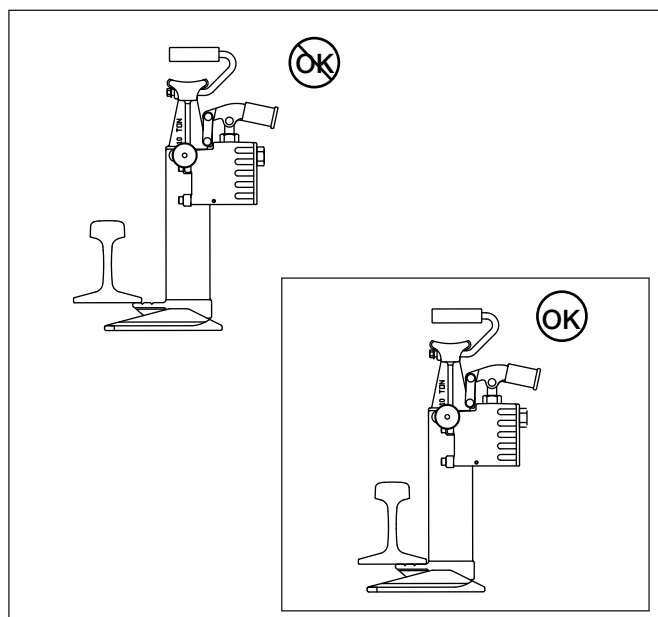

Figure 3, Proper Toe Engagement
- Whenever possible, fully engage the jack lifting toe with the rail. If full engagement is not possible, ensure that the lifting toe is engaged AT LEAST 50 PERCENT with the rail. Engagement of less than 50 percent may result in instability during lifting, and will cause excessive stress on the jack. Damage to jack could occur. See Fig. 3.